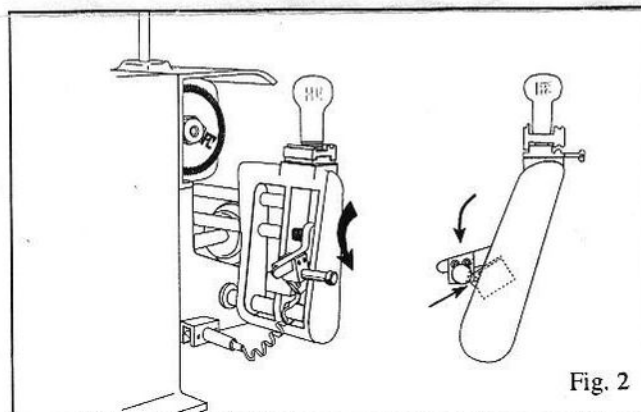

Fig. 2
2. Lower the shoulder gauge down until the Easy Flip engages the safety switch. Hold the Easy Flip in place and tighten set screws securely. See Fig. 2.